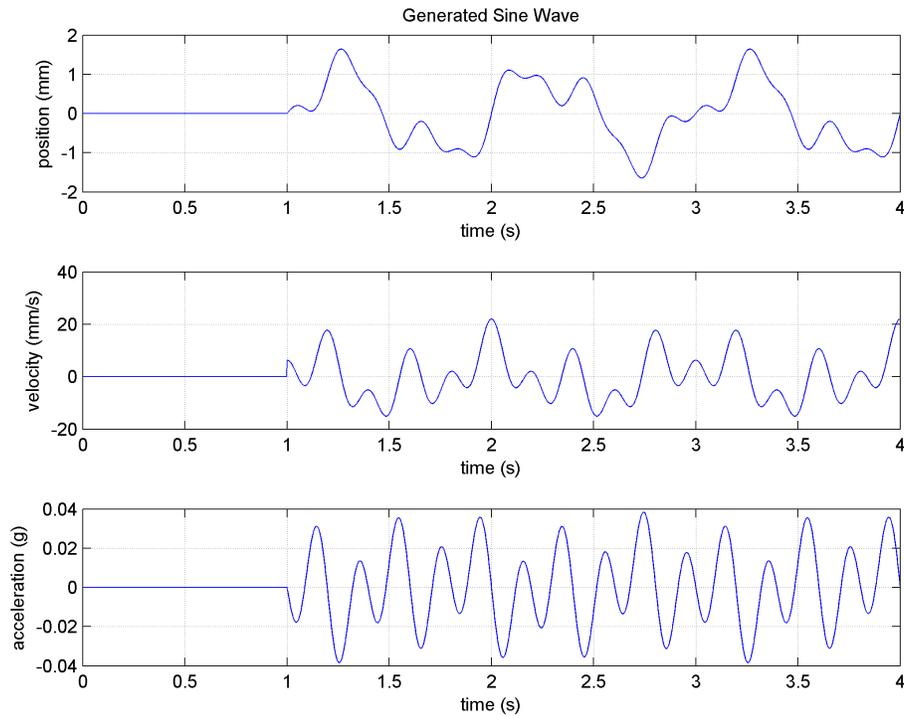

Figure 5.1: Sine wave created by `make_sine.m` script
5. Run the `make_sine.m` script (click on Debug | Run in the Editor menu bar or on the *Run* icon in the Editor tool bar) to generate the sine wave. This will generate a plot similar to Figure 5.1.